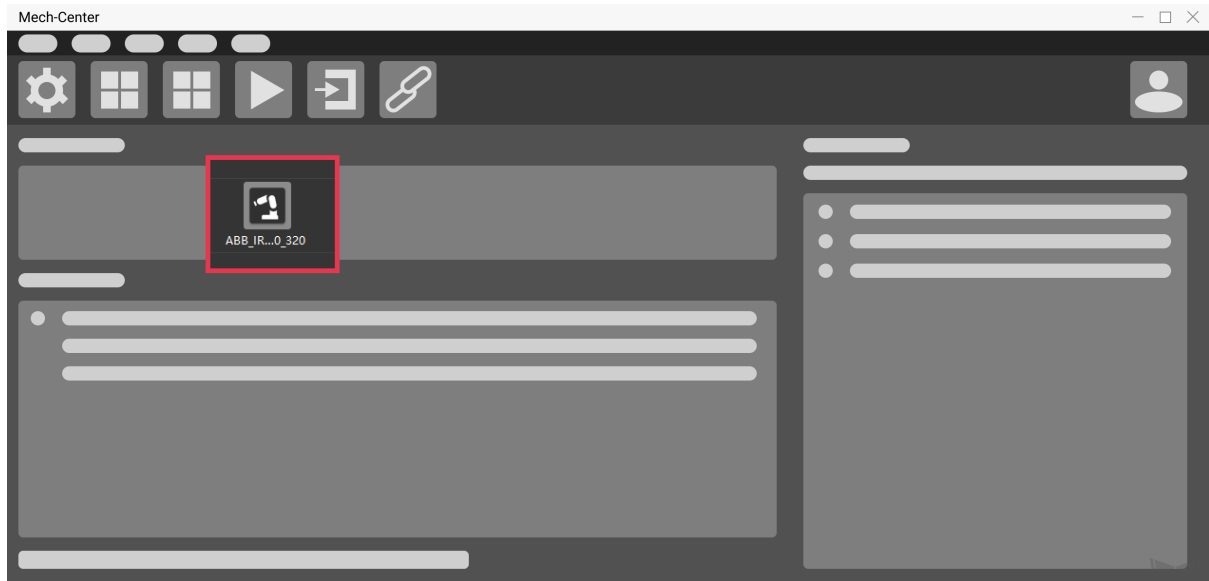

Figure 3. Mech-Center interface after robot connection
3. Once the robot is successfully connected, an icon will show up in Mech-Center, as shown in *Figure 3* (The displayed robot model should match the actual robot).